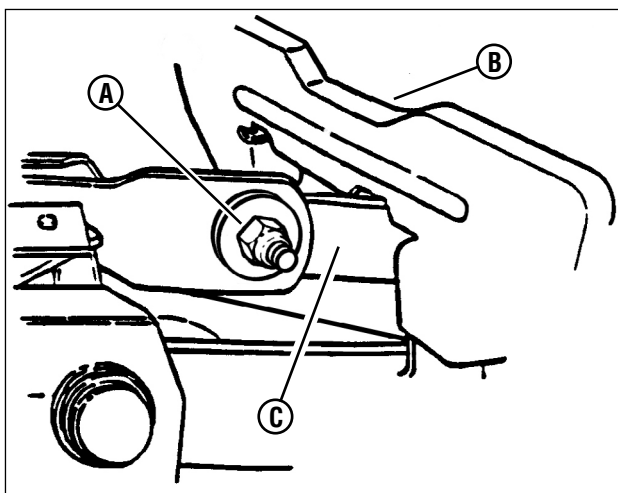

Figure 34: Adjusting deck levelness (side-to-side)
6. Loosen the hardware (**A**, **Figure 34**) that retains the left side of the blade pedal (**B**).